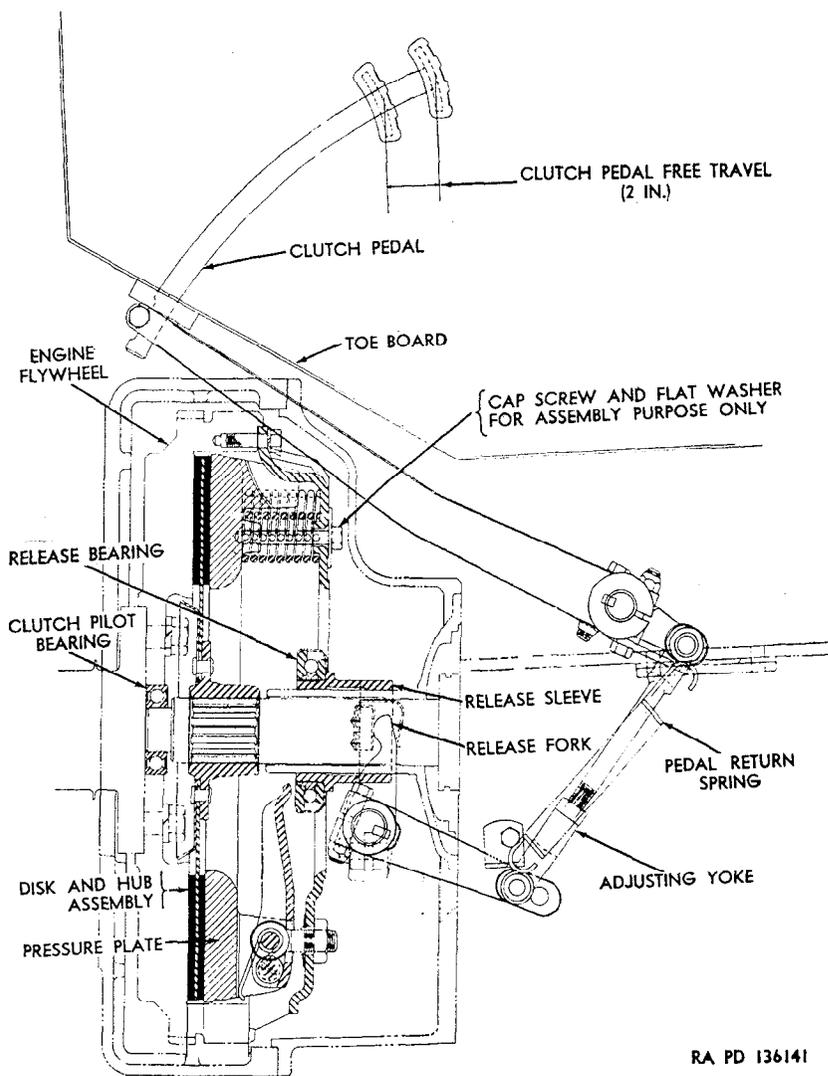

Figure 196. Diagram of clutch and control linkage.
a. Description. The clutch (fig. 195) is a single-plate, dry-disk unit secured to the rear of the engine flywheel by 12 cap screws. When installed in the power plant, the clutch is completely enclosed by the flywheel housing and the clutch housing, which is bolted to the front of the transmission (par. 204). The purpose of the clutch is to connect and disconnect the engine and transmission, thereby permitting operation of the engine when the vehicle is standing still, as well as permitting the selection of different transmission gear ratios when the vehicle is in motion. Depressing the clutch pedal (fig. 196) causes the release fork to move the release bearing forward on the transmission input shaft and contact the release levers. Pressure of the bearing on the release levers relieves pressure of the compression springs on the pressure plate. Therefore, when the clutch pedal is fully depressed with the linkage properly adjusted, the clutch is fully released. When the clutch pedal is fully released, the clutch is fully engaged.
- (5) Unhook lower end of clutch pedal return spring from bracket on outside of frame left side rail.
- (6) Depress clutch pedal and note pedal free travel (fig. 196).
- (7) If pedal free travel determined in (6) above is still incorrect, repeat (2), (3), (4), and (6) above until correct free travel is obtained.
- (3) Place disk assembly (fig. 196) in position against flywheel with long end of disk hub toward rear.